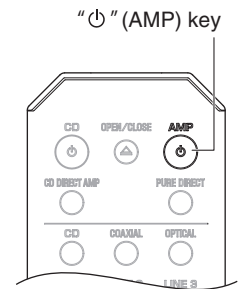

Fig. 2
7. Press the "⏻" (AMP) key on the remote control to set this unit to standby. (Fig. 2)
9. Press the "⏻" (AMP) key on the remote control to turn on this unit. (Fig. 2)